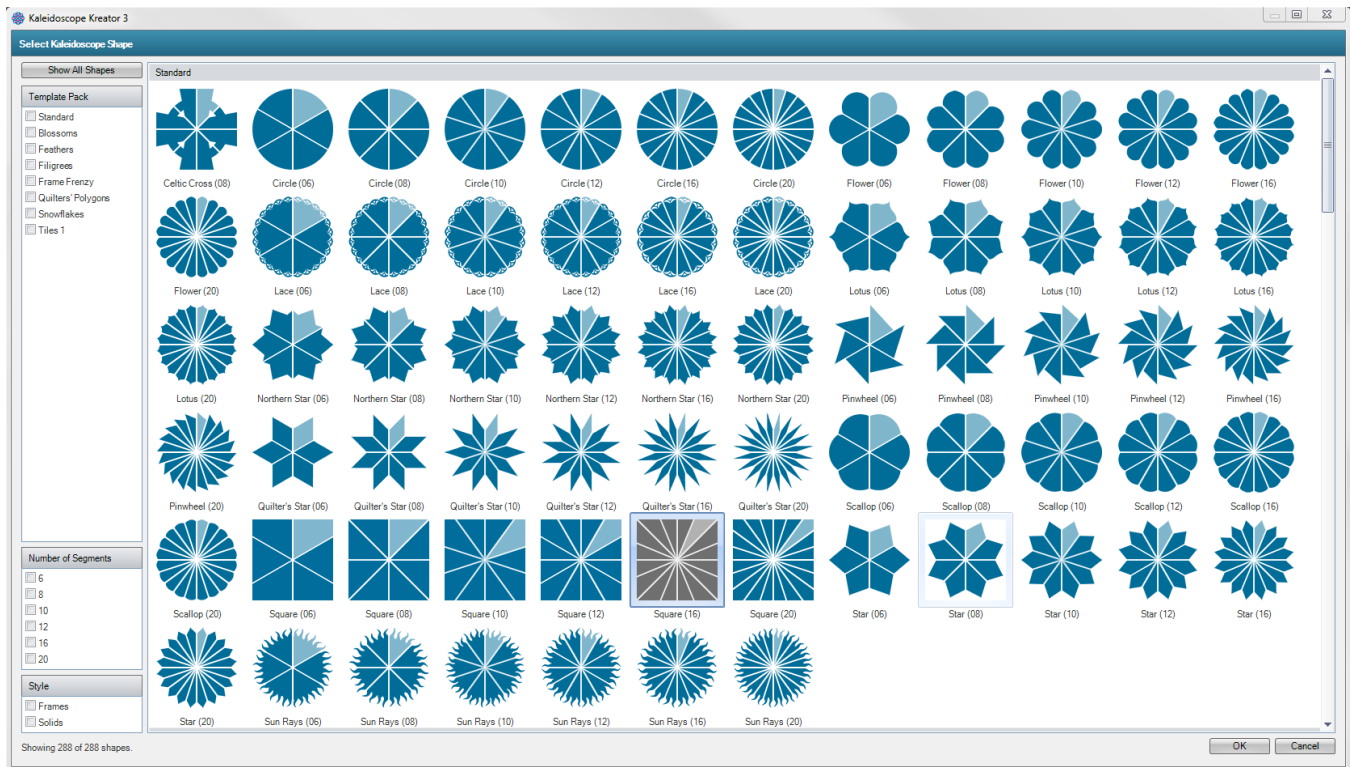

Figure 1
4. Click on the **Select Kaleidoscope Shape** button in the toolbar (or **Edit>Select Kaleidoscope Shape** from the menu.) Choose the **Square (16)** shape. (Fig. 1)